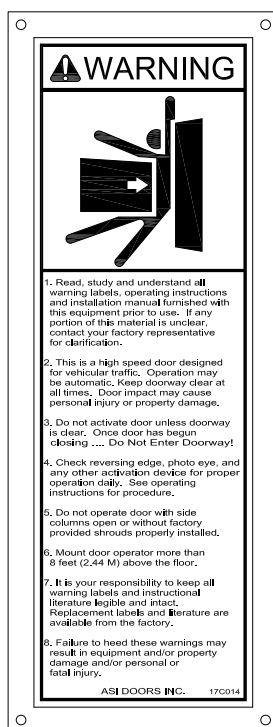

Figure 2: Warning Placard
2. Be sure to read all warning labels before installation (Figure 2).